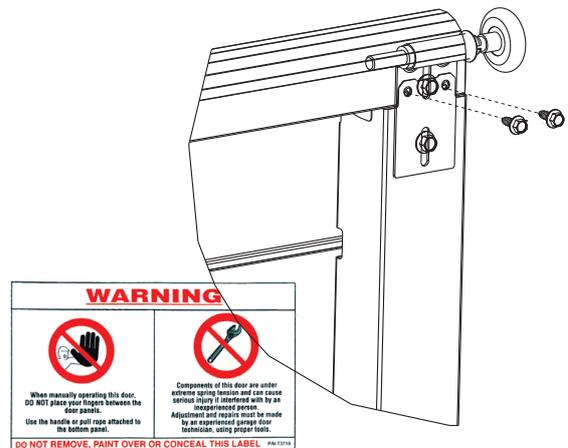

Fig: 3.2.4
- f) Once the top panel is in place and adjusted to vertical the additional locking fixings must be added. Fig 3.2.4.